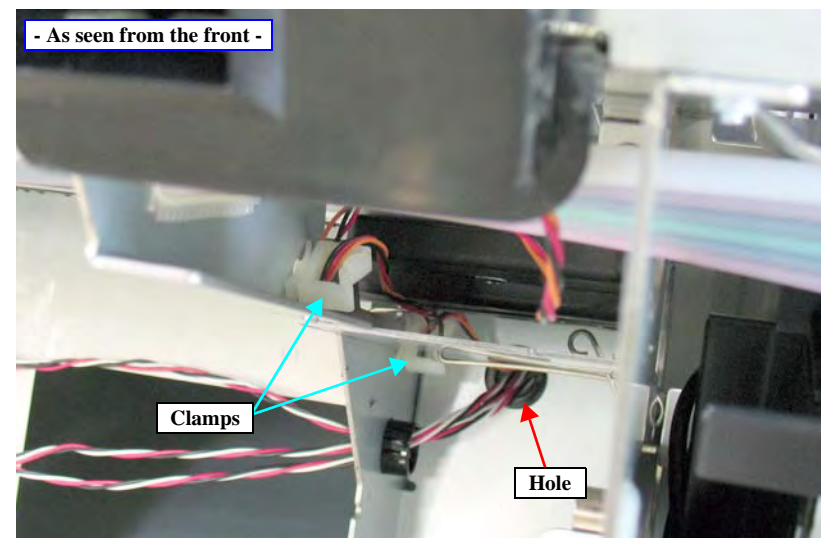

Figure 4-36. Releasing the harnesses (front)
10. Pull out the harness from the hole on the Main Frame. *See Figure 4-36.*
11. Release the cable from the two clamps. *See Figure 4-36.*